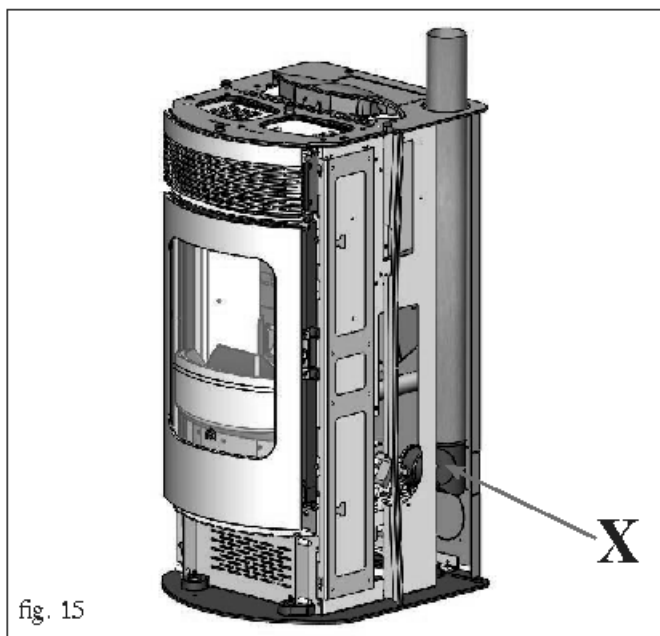

fig. 15
- Remove the elbow joint (X - Fig. 15) complete with band from the smoke extractor unit and reposition it with the connection point to the smoke output pipe (not provided), directed upwards.